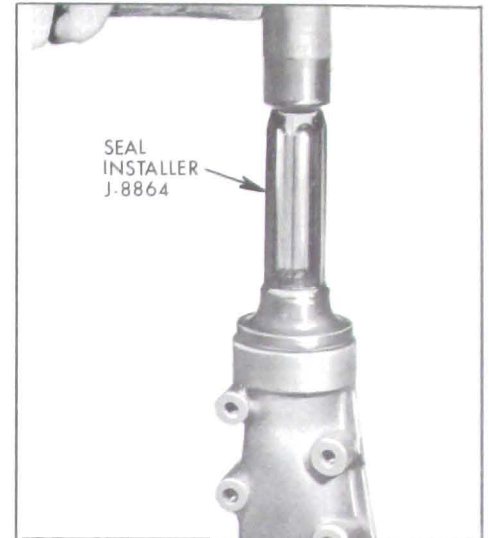

Figure 4-109—Installing Case Extension Oil Seal
43. Install new oil seal in rear bearing retainer, using Seal Installer J-8864. See Figure 4-109. Lightly coat seal with gear lubricant.